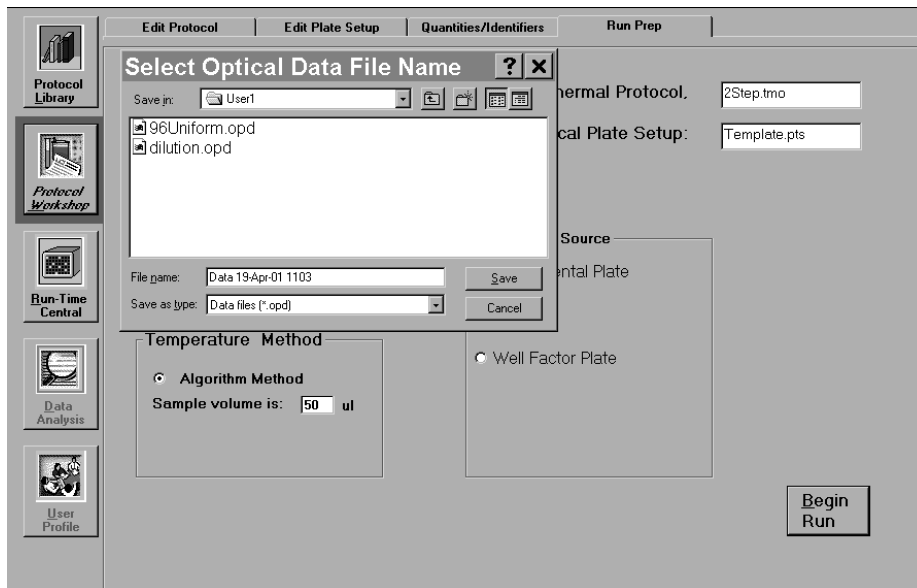

Fig. 5.7. Select Optical Data File Name window before run begins.
3. Click **Begin Run** and a dialog box “**Select Optical Data File Name**” will open (Figure 5.7). The software creates a default name for you from the date and time setting on your computer. (e.g. **Data 19-Apr-01 1103**)